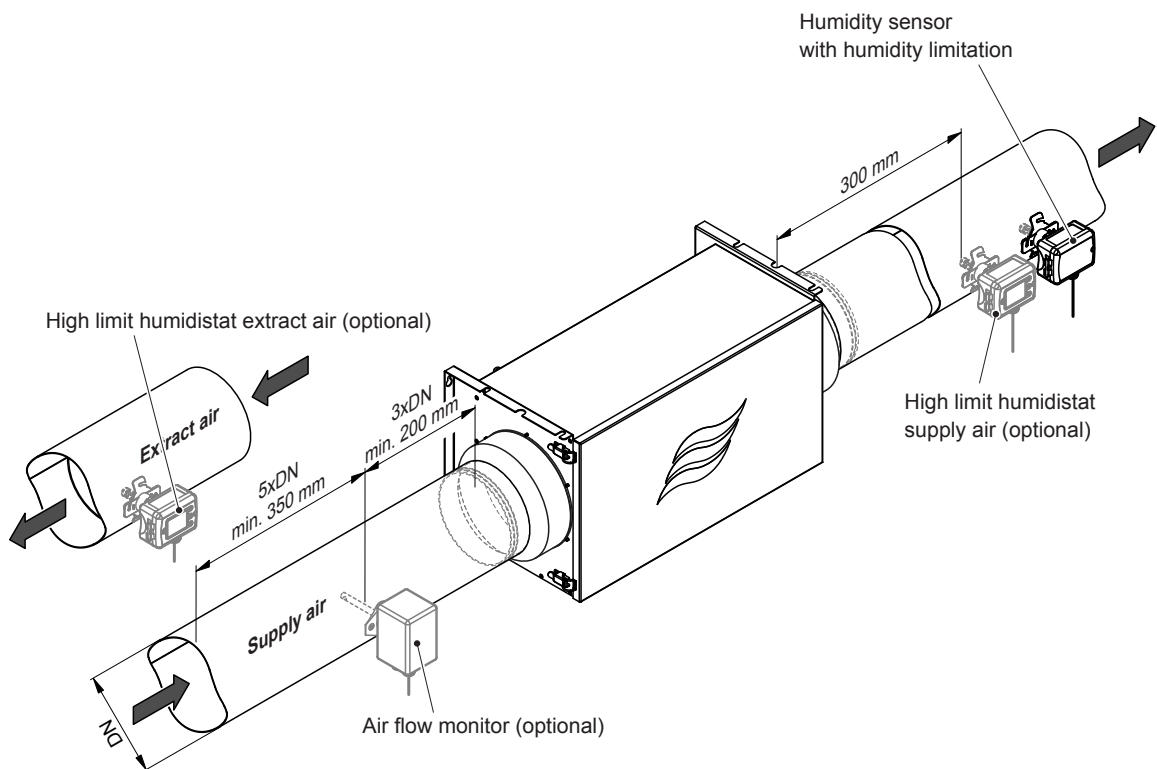

Fig. 22: Positioning the humidity and temperature sensor and monitoring devices for extract air control
1. Drill the insertion hole for the sensor shaft ($\varnothing 16$ mm) into the ventilation duct (see Fig. 22 for positioning).
1. Drill the insertion hole for the sensor ($\varnothing 16$ mm) into the ventilation duct (see Fig. 22 for positioning).